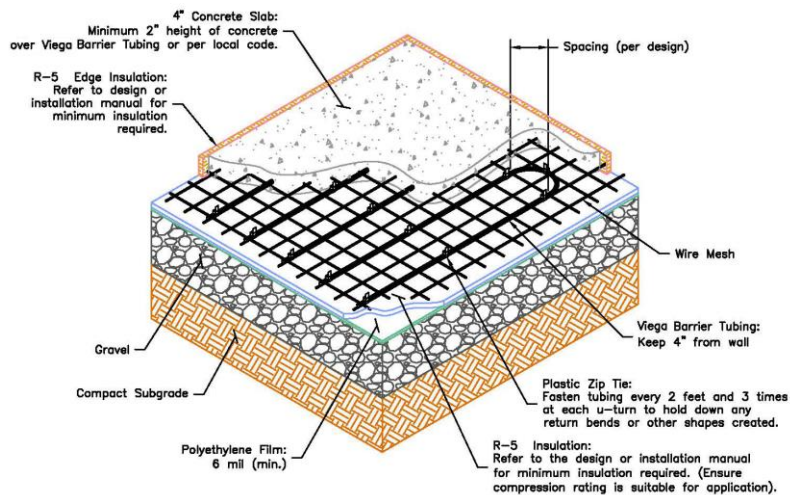

Figure 5 In-Slab – Plastic Zip Ties
**Common Concrete Fasteners:** Concrete system point fasteners are used when tubing is installed in a poured concrete slab to maintain tubing location during the concrete pour. Fasteners attach the tubing to insulation, wire mesh, rebar, or base slab with the appropriate fastener for the application. See Figures 5, 6, and 7.